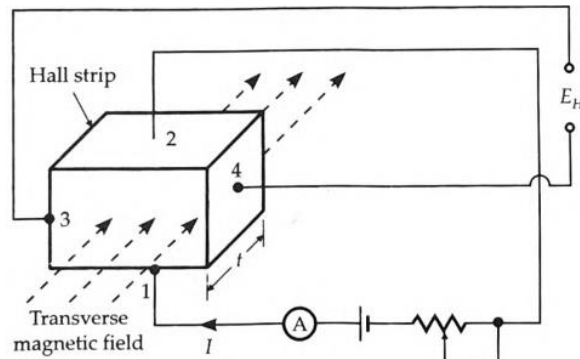

Fig. 5: Hall effect elements
- The principle of working of a Hall Effect Transducer is that if a strip of conducting material carries a current in the presence of a transverse magnetic field as shown in Fig. 5, a difference of potential is produced between the opposite edges of the conductor. The magnitude of the voltage depends upon the current, the strength of magnetic field and the property of the conductor called *Hall Effect*.
- Let us consider Fig. 5, current is passed through leads 1 and 2 of the strip. The output leads connected to edges 3 and 4 are at the same potential when there is no transverse magnetic field passing through the strip.